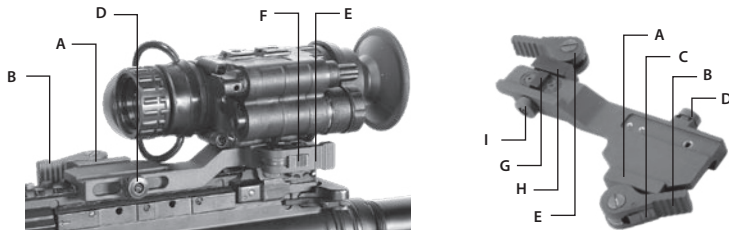

FIGURE 3-6. MOUNTING THE NYX-14 TO A WEAPON WITH A QUICK-RELEASE PICATINNY MOUNT ADAPTER
To mount the NYX-14 to a weapon using an optional quick-release Picatinny mount adapter (QRM), perform the following (refer to Figure 3-6):
1. While pushing down on the lever holder (C), turn the lever (B) backwards to loosen the QRM clamping device (A).
2. Install the QRM on the weapon rail by inserting the stop (not shown in Figure 3-6) into one of transverse slots of the weapon rail.
3. To secure the QRM onto the weapon rail, turn the lever (B) forward. Secure the clamping device (A) tightly to the weapon rail. To adjust the force of the lever clamp, loosen or tighten the nut (D) as necessary.
4. While pushing down on the lever holder (F), turn the lever (E) forward.
5. Install the NYX-14 on the QRM rail by inserting the stop (G) into the transverse slot of the unit rail.
6. Attach the NYX-14 to the QRM rail by turning the lever (E) backwards. Secure the QRM clamping device (H) tightly to the NYX-14 rail. To adjust the force of the lever clamp, loosen or tighten the nut (I) as necessary.